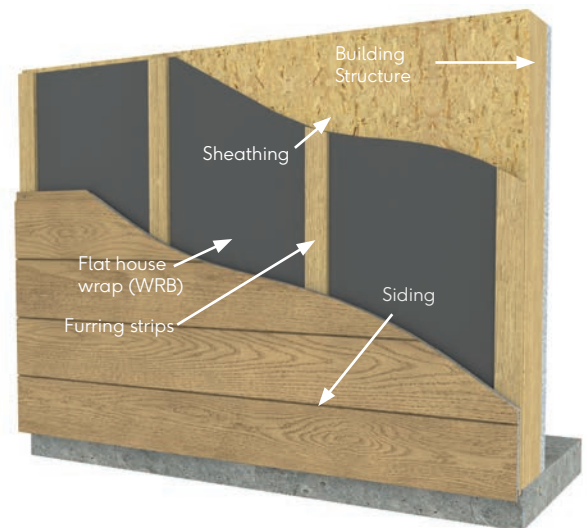

Fig.4 - Typical wall build-up with furring strips
2. Adding furring strips of pressure-treated wood, at 16" or 24" centers depending on the location. (Fig. 4)